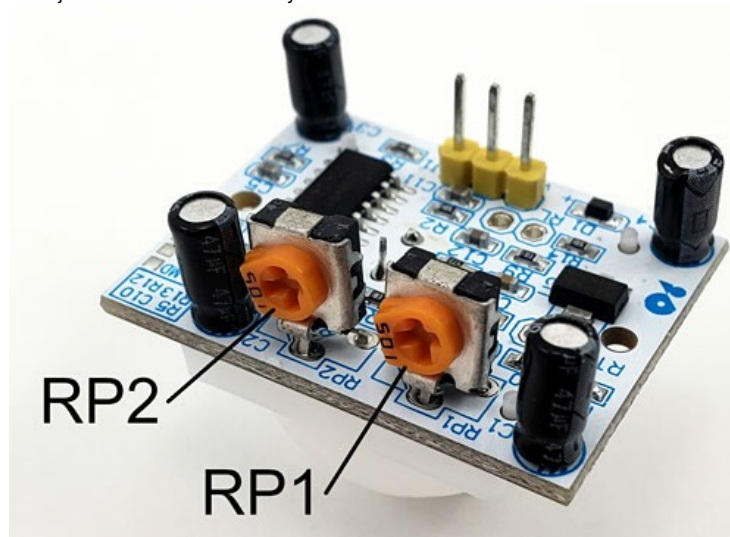

Figure 7. Adjustment knobs on the PIR sensor. RP2 adjusts sensitivity and RP1 adjusts delay time.
2. Your PIR sensor has two small orange knobs on it, labeled RP1 and RP2 (Figure 7). These knobs can be adjusted using a small Phillips-head screwdriver. RP1 adjusts the "delay on time," or how long the sensor will remain on after detection motion. This value can range from 3 to 200 seconds. To start, we recommend turning this knob all the way counter-clockwise to set the delay to 3 seconds (otherwise, your robot will drive forward too far when it detects motion). You can increase the delay later if you want. RP2 adjusts the sensor's sensitivity to motion.